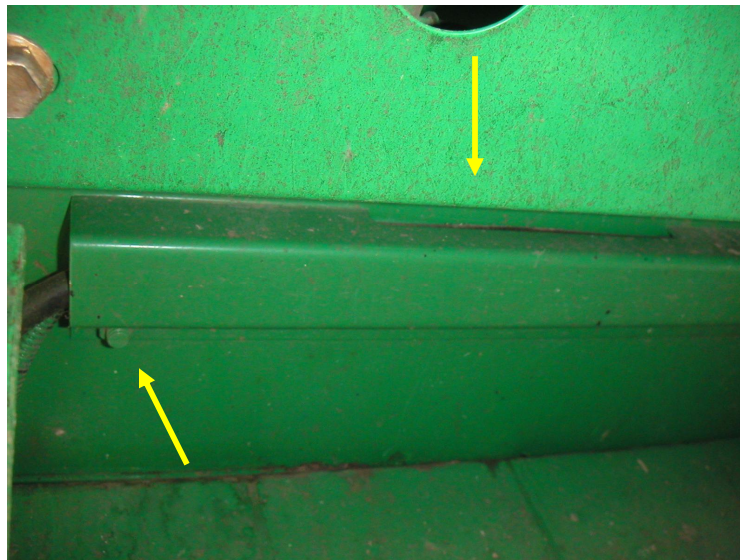

Figure 7
2. Route the right hand hose to left-hand side of corn head, reinstall shield and retain with nuts removed earlier. (See **Figure 7**)